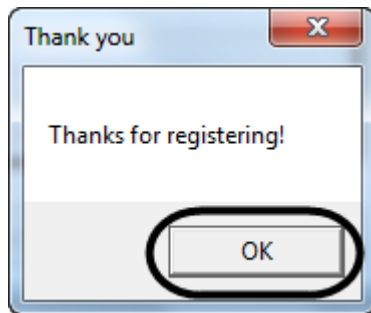

Figure 9
11. Click **OK** in the **Thank you** dialog box (Figure 9) to get started with the SpikeMark program.